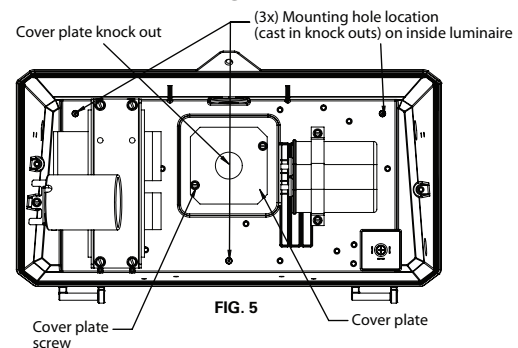

FIG. 5
6. Ensure all electrical components and wiring are clear from area then drill three through holes using 1/4" drill bit **FIG. 5**.
8. Remove cover plate in housing by removing two [2] screws and remove cover plate knock-out **FIG. 5**.